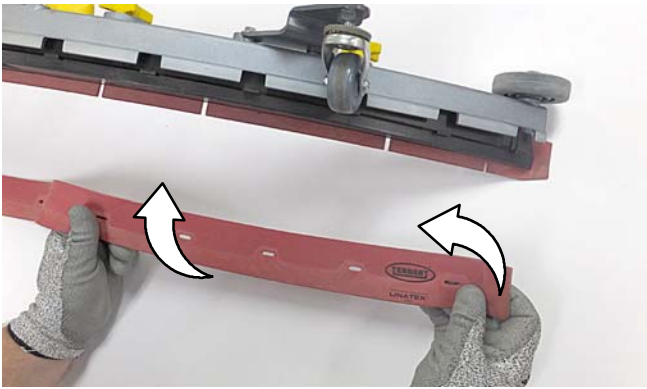

FIG. 88
4. Rotate the rear blade to a new wiping edge and reinstall blade (Figure 88). Make sure to align the slots in the blade with retainer tabs.